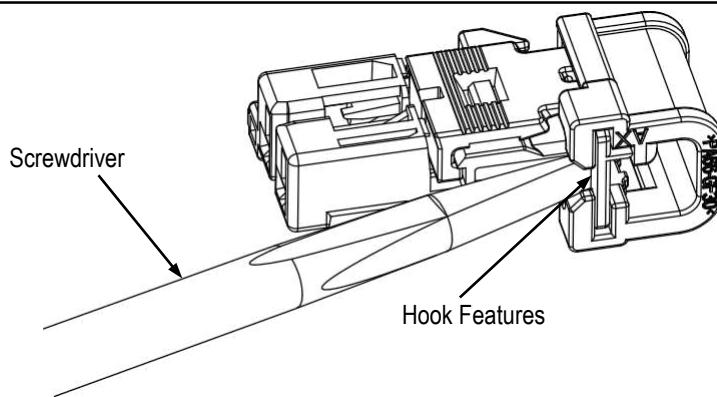

Figure 6
2. Slide tip of screwdriver under hook features on end opposite the connector latch. See Figure 6.